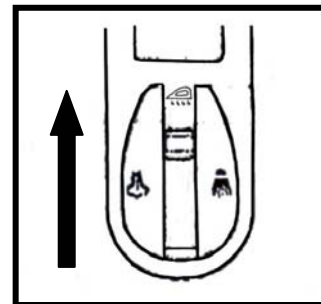

Figure 6
4. Hold the iron horizontally over the sink and slide the variable steam control lever to the "Self Clean" zone. " See Figure 6.